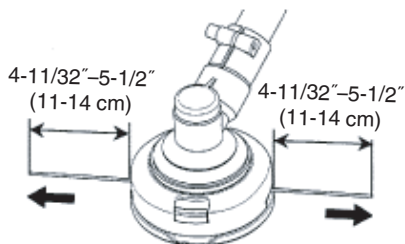

Fig. 34
- (7) The initial cutting line length should be approx. 4-11/32"-5-1/2" (11-14 cm) and should be equal on both sides. (Fig. 34)